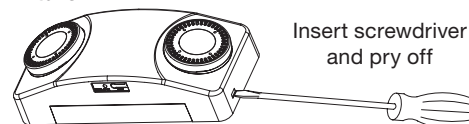

FIG.1
1. Use flat screw driver to pry off front cover from back plate. (see Fig. 1)